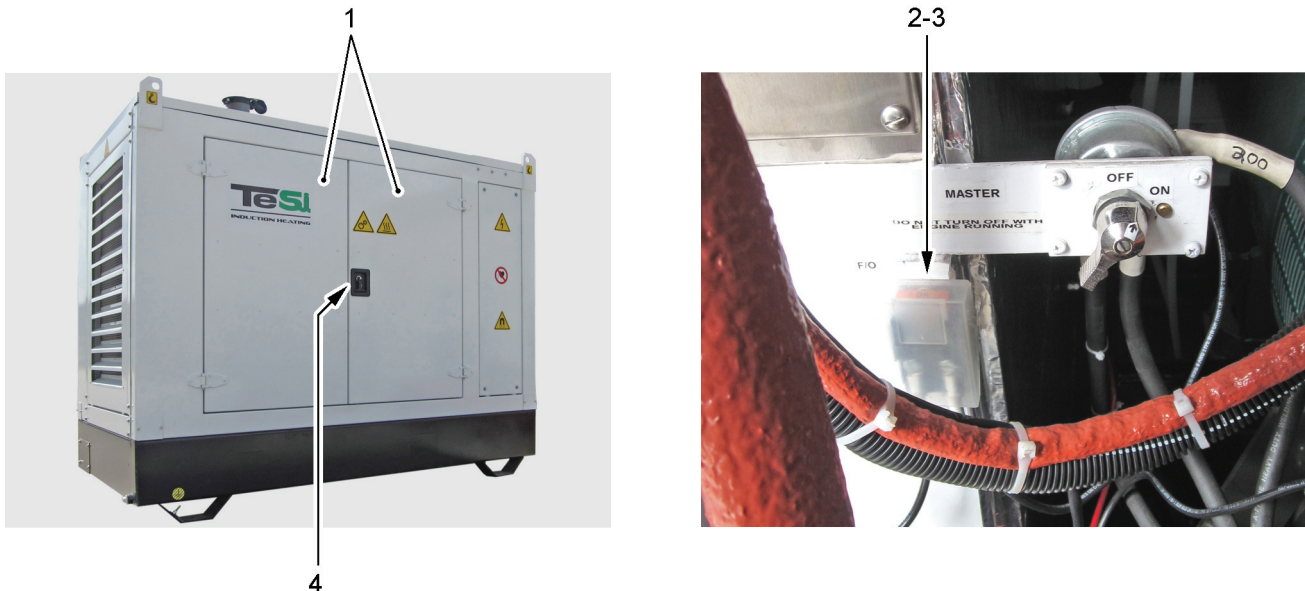

Figure 7.14 - Fuse F0 replacement
- 1) Open the access door to the engine (see Figure 7.14/1), situated on the front part, by acting on the relevant handle (4), after having removed the locking padlock, in order to make it possible to accede to the fuse F0 (3).
- 2) Remove the protective cover (2) and extract the fuse F0 (3).
- 3) Replace the fuse F0 (3) with another one having the same characteristics, and re-position the protective cover (2).
- 4) Close the access door to the engine (1), by acting on the handle (4), and lock it by means of the locking padlock.